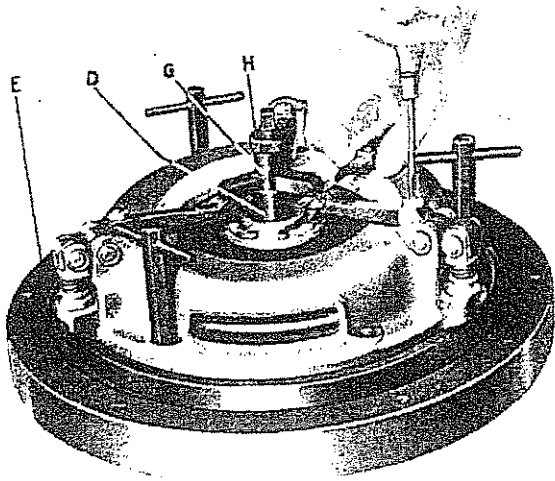

Fig. 89. - Clutch adjustment using fixture A 711063
For clutch adjustment it is not necessary to place upon the fixture A 711063 the power take-off disc, which remains outside the assembly, and is substituted by a ring (Fig. 89) superposed to fixture E.
- a) adjustment of the complanarity of the clutch disengagement three lever ends. The adjustment to be made according the Fig. 89 i.e., by checking, using feeler gauge, that between the lever ends and the checking elements laid upon the spacer there is a max clearance of 0,1 mm (0.0039"); a different clearance requires to unscrew the fastening nut and adjusting the proper screw.